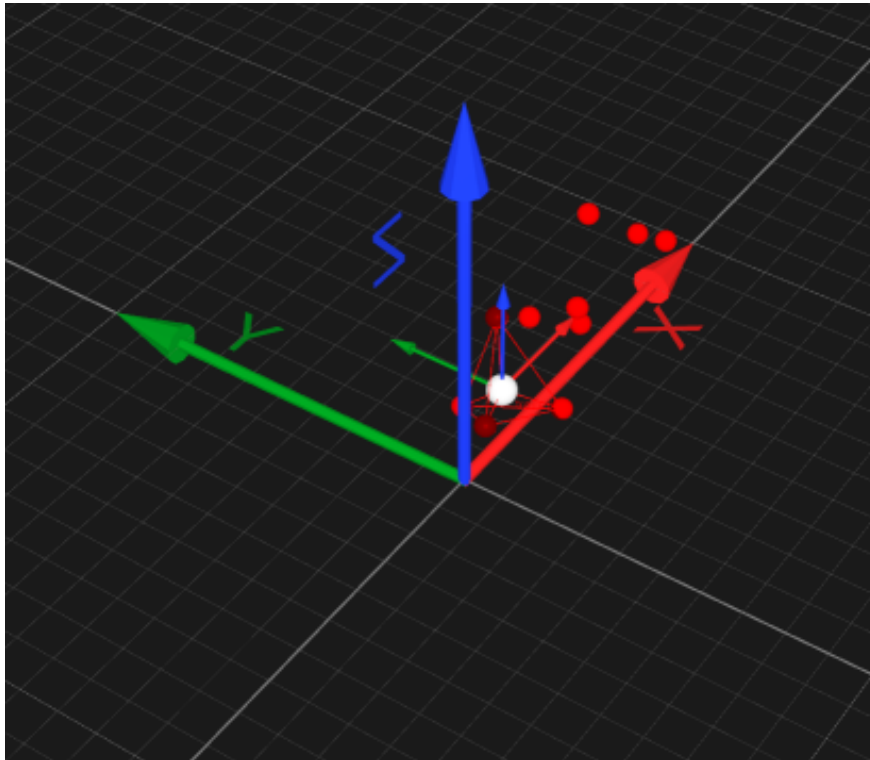

Figure 12: How the defined bodies may look like i 3D-View, with the virtual point marked.
8. While observing the body in *3D-View* gradually change the coordinates for the virtual point until it is right above the global origin, that is pierced by the z-axis for the global coordinate system. The virtual point of the trailer will be marked (white). When the placement of the virtual point is satisfactory the coordinates could be something similarly to Figure 12.